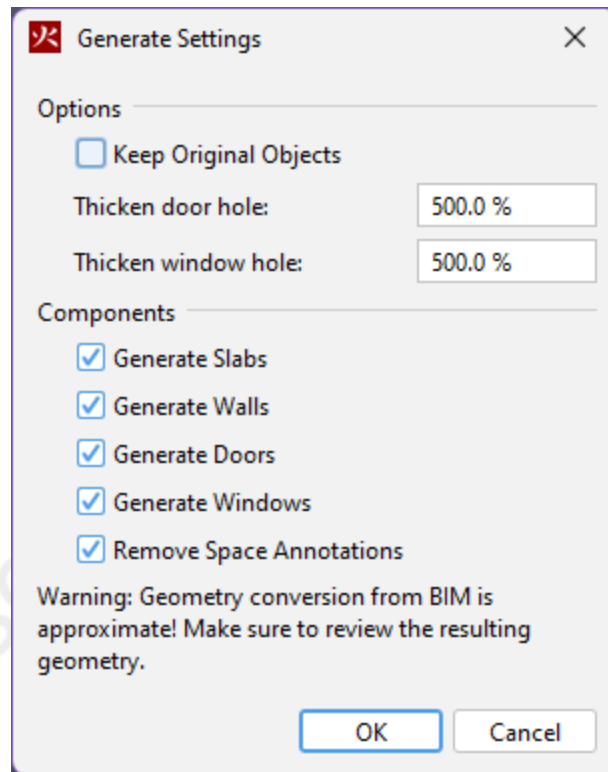

Figure 28. Generate Model from BIM Settings dialog
4. Enter the conversion options in the **Generate Settings** dialog as shown in Figure 28.
In Figure 28, the following options can be specified: